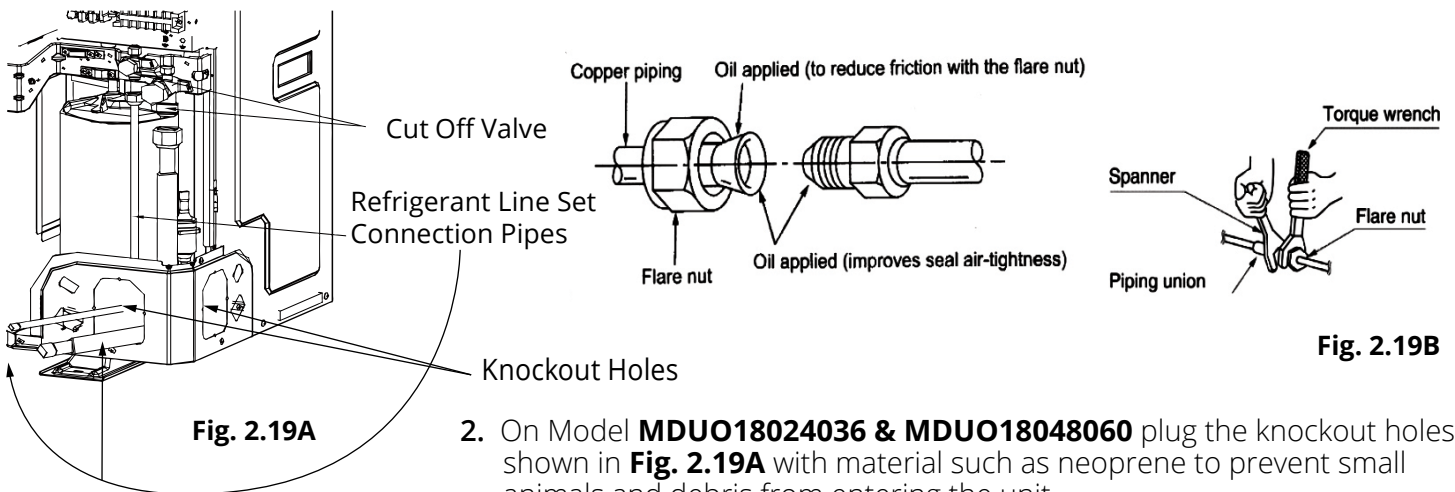

Fig. 2.19B
1. Screw on the flare nut of the flared connecting pipe onto the outdoor unit valve. Refer to **Fig. 2.19A** & **Fig. 2.19B**, using the torque values in the table below.